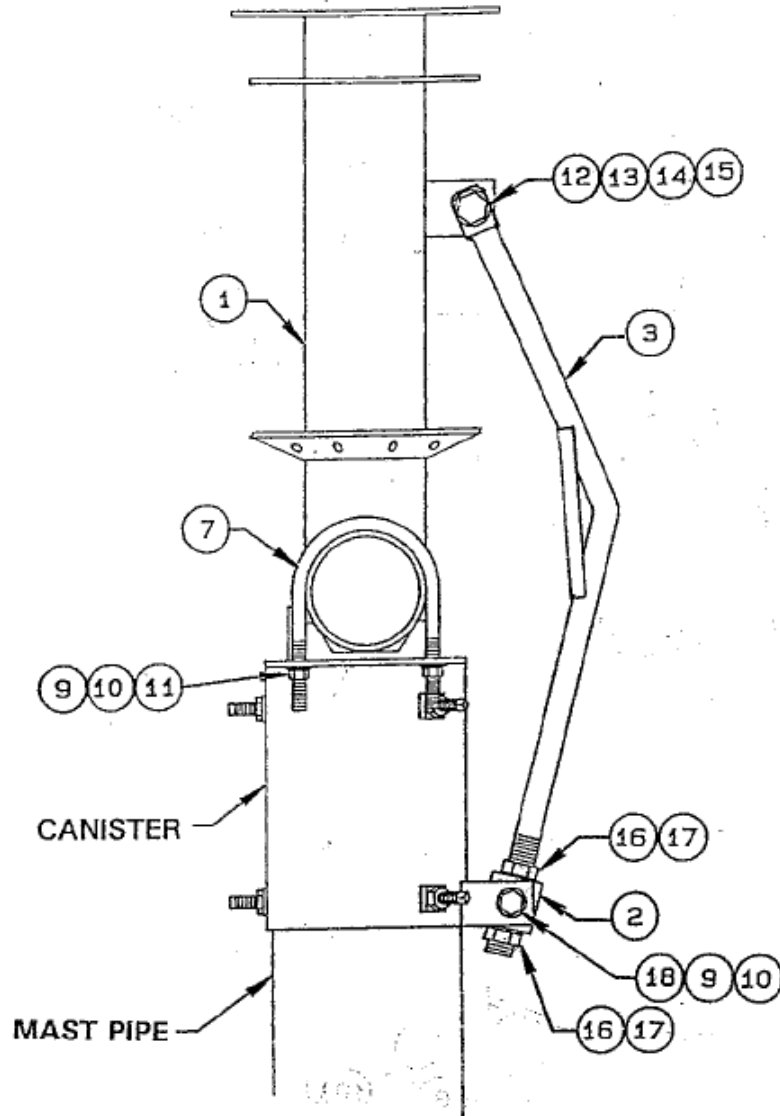

Figure 4.3-1
Refer to figures 4.3-1 through 4.3-2 and the parts list (table 4.3) and follow the instructions in the listed sequence.
1. Attach the center hub (item# 1) to the canister in an inverted position with [2] 1/2-13 x 4.00" U-bolts, [2] flatwashers, [2] lockwashers, and [2] 1/2-13 hex nuts (items # 7,9,10,11). Make sure the elevation tabs on the hub are on the same side as the elevation tabs on the canister. See figure 4.3-1.
3. Mount the temporary assembly rod (item# 3) to the elevation block with [2] 3/4-10 hex nuts, and [2] flatwashers (items # 16,17). Bolt the other end of the rod to the tabs of the canister with [1] 5/8-11 x 2.00" bolt, [2] flatwashers, [1] lockwasher and [1] 5/8-11 hex nut (items # 12,13,14,15). Tighten all hardware securely. See figure 4.3-1.